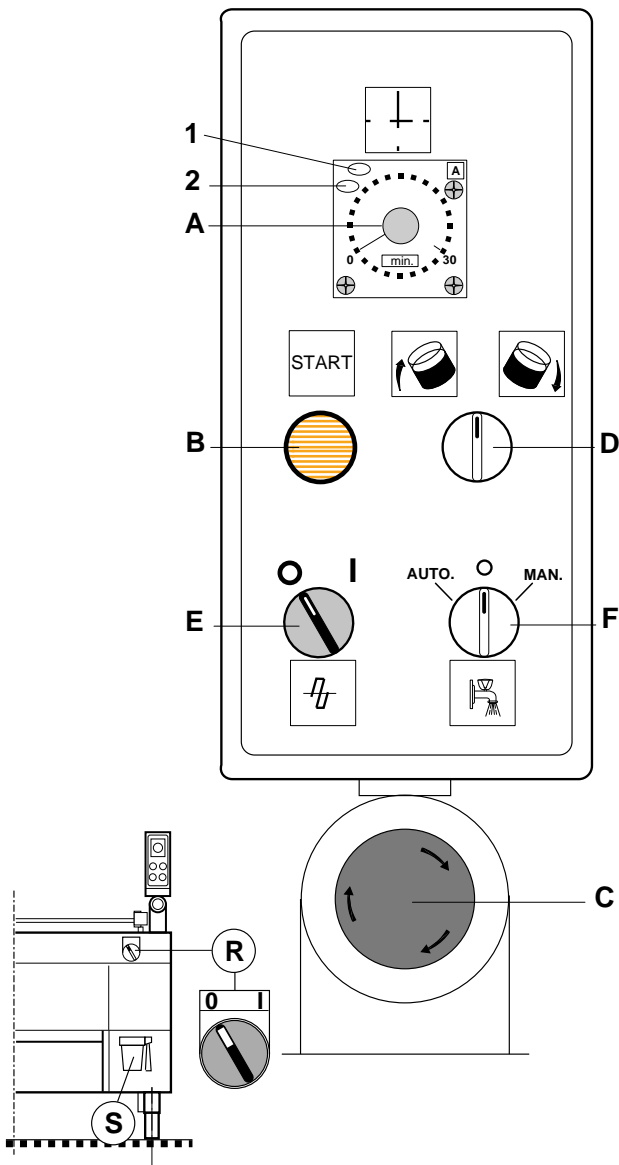

Fig.3
- Open the right lateral panel and the one of the box that gives access to the electrical components (fig.3).